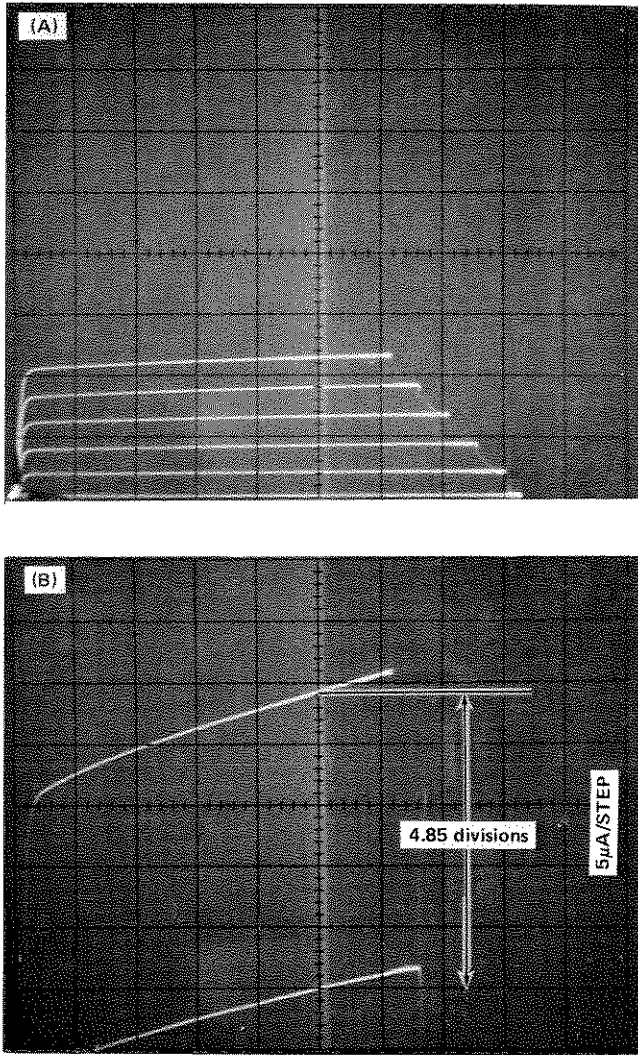

Fig. 13. Illustration of steps 14 and 15,  $\beta$  calculation.
- c. Multiply the  $\beta$ /Div (a) by the collector current change in divisions (b). The example in Fig. 13 shows a base current step of  $5 \mu\text{A}$ . The collector current per division equals  $.2 \text{ mA}$ .